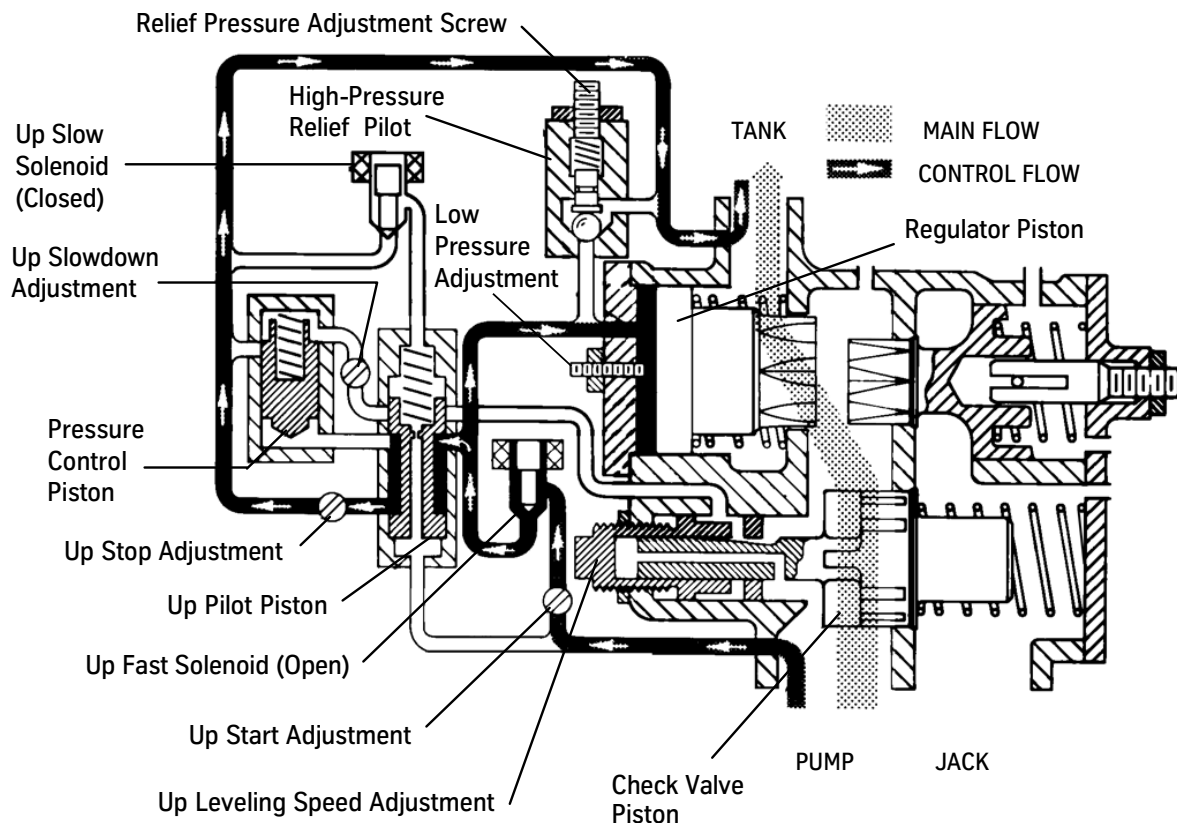
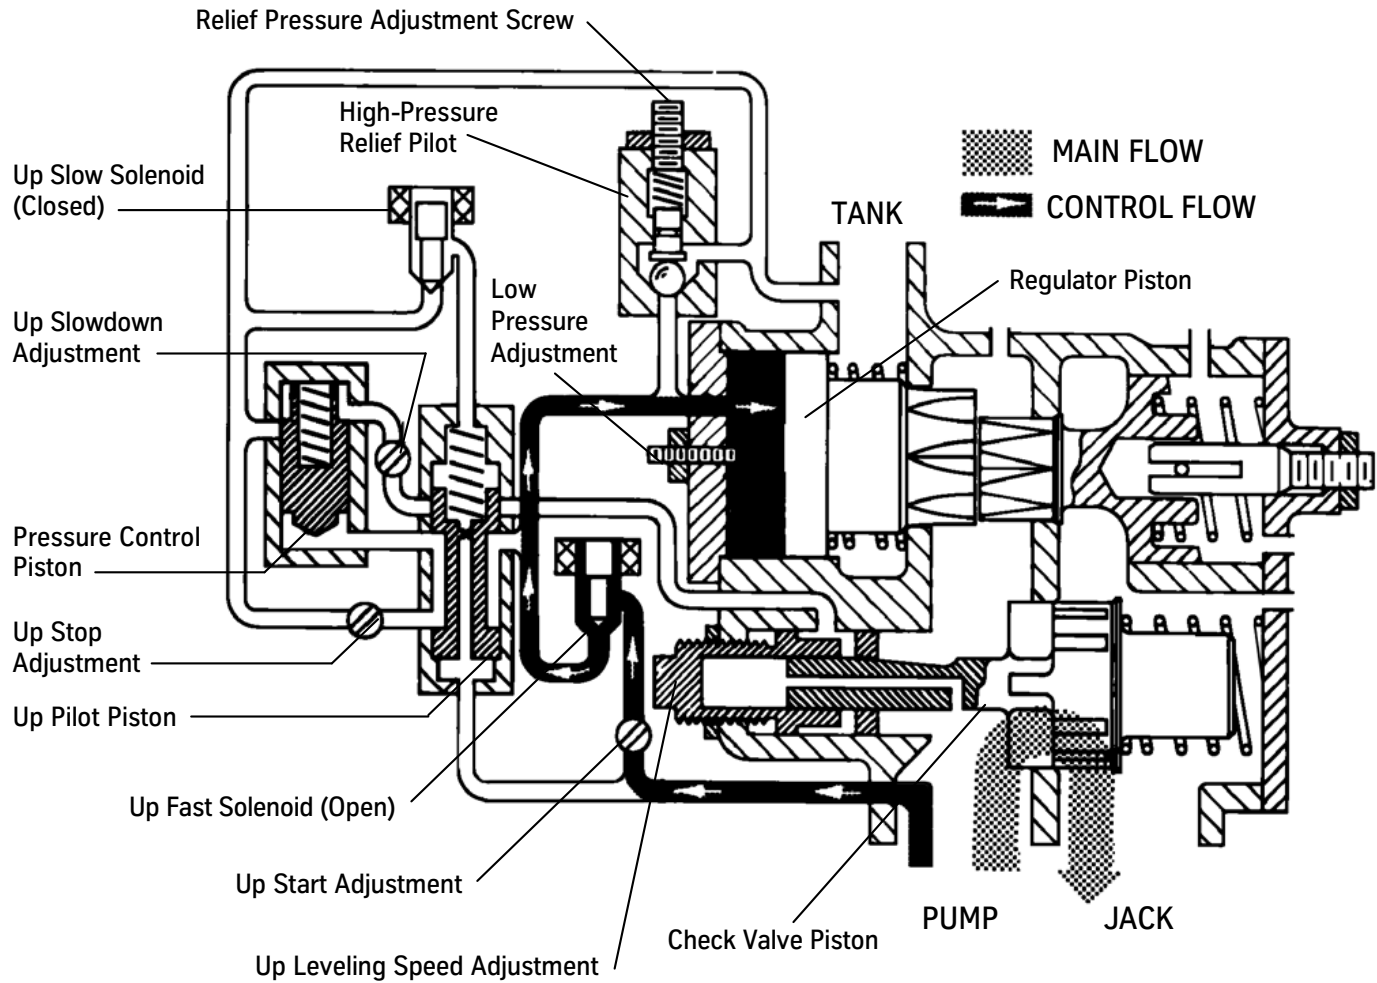

Figure 6 - Up Start Diagram
Figure 7 - Full Speed Diagram
1. To start the car, the pump starts, and the up fast solenoid energizes. See Figure 6 below and Figure 7 on page 56.